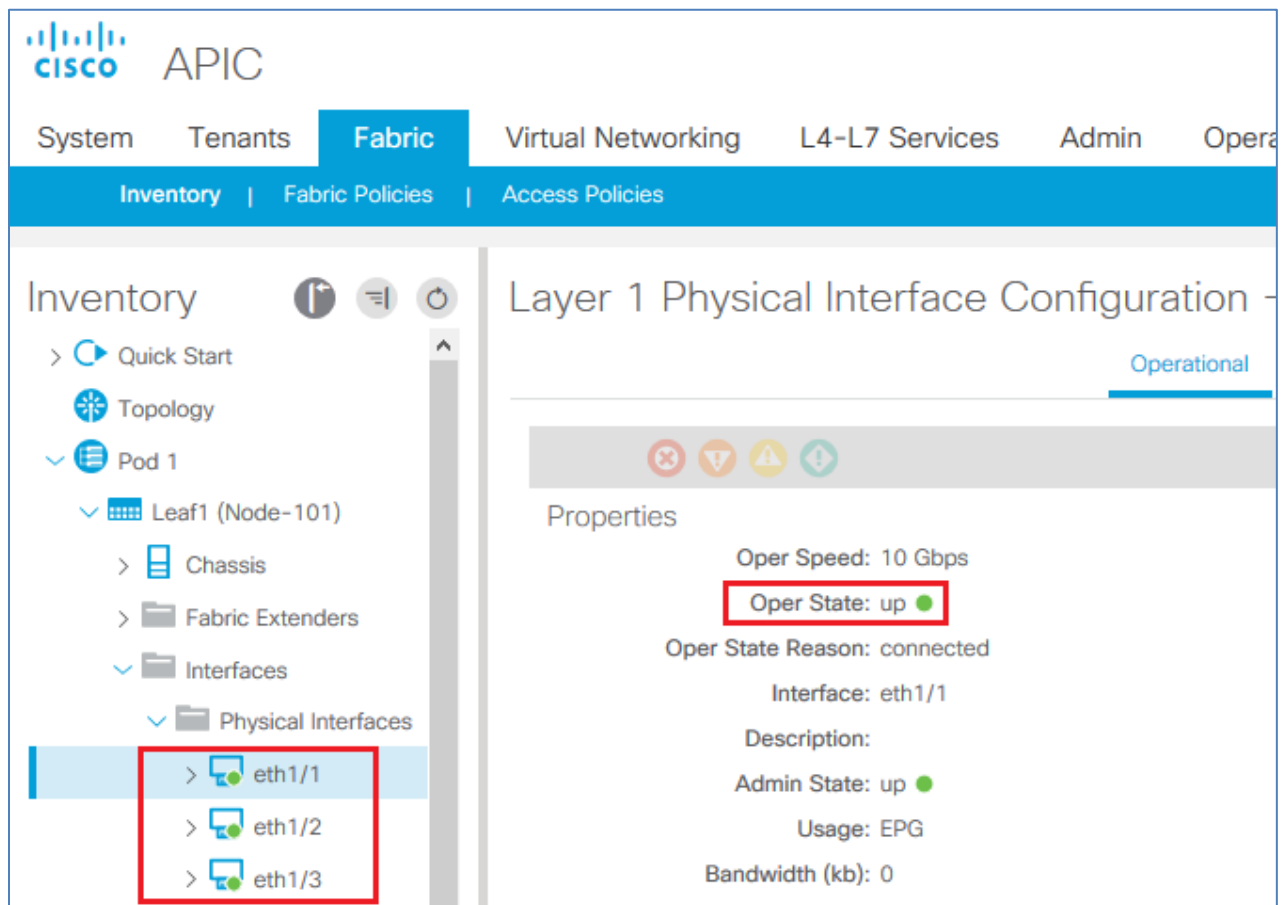

Figure 80 Cisco ACI physical interfaces
1. In the APIC GUI, go to **Fabric > Inventory > Pod 1 > Leaf name > Interfaces > Physical Interfaces** as shown in Figure 80.